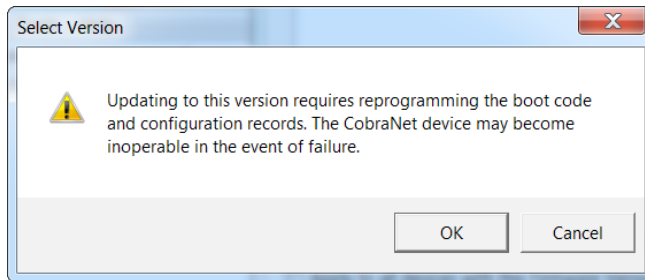

Figure 19: Select Version
8. The message shown in **Figure 19** will appear. Click **OK** to begin firmware update.